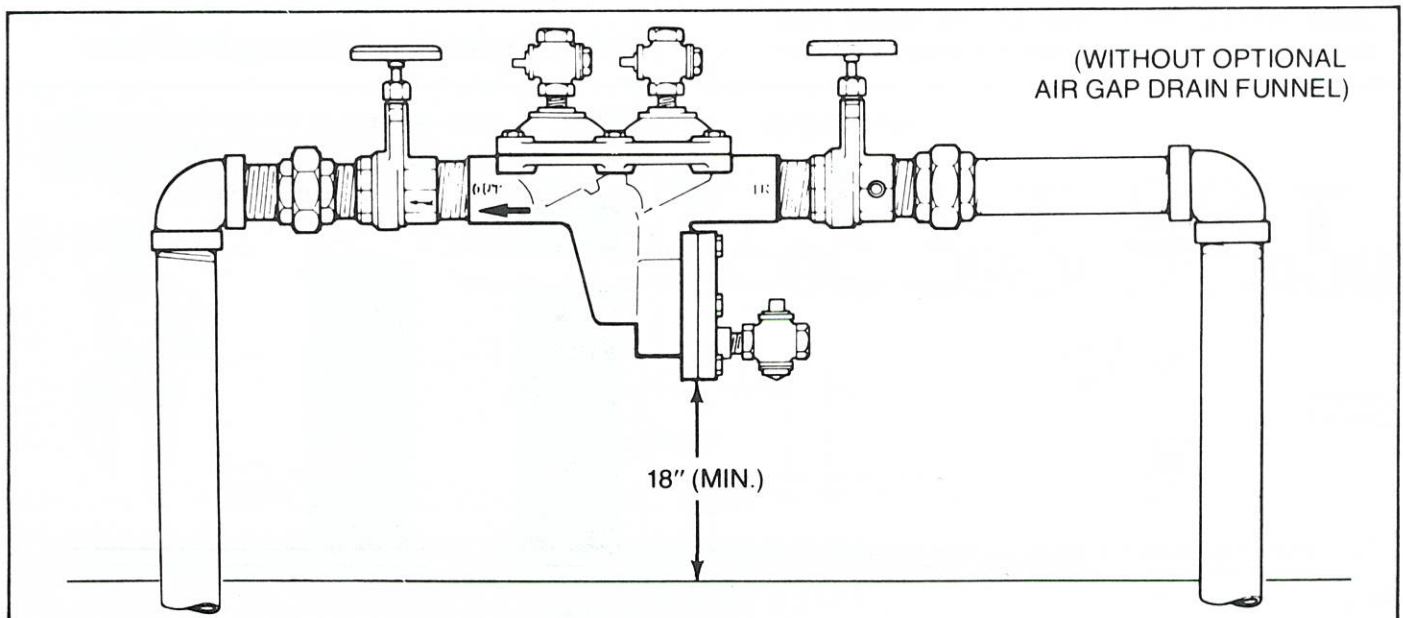

Figure 2. WARM CLIMATE OUTDOOR INSTALLATION
4. Devices should be installed in an accessible location with ample clearance to facilitate testing and repairs. (See Fig. 2)
B. WARM CLIMATE OUTDOOR INSTALLATION (See Fig. 2)